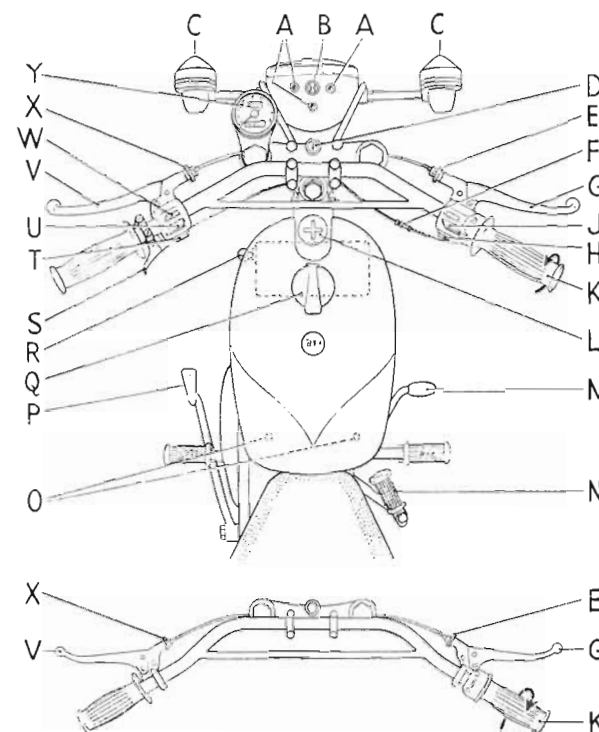

FIGURE 1. The controls.
**EXHAUST VALVE LIFTER (500 cm3 engine, except Moto-cross model):**—This is the small lever (S) FIG. 1, mounted on the left handlebar and it must be depressed in order to raise the exhaust valve and therefore relieve engine compression.